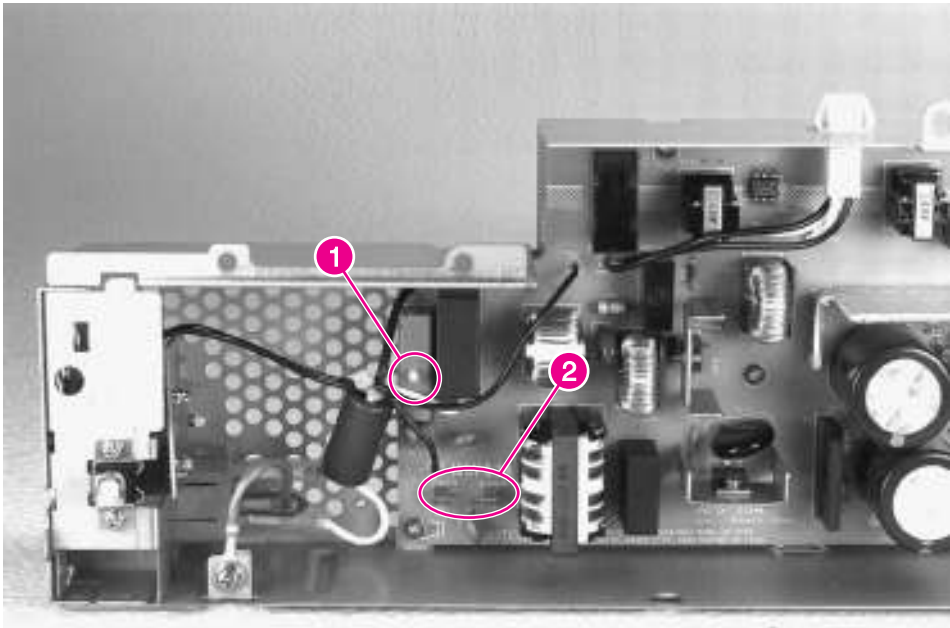

Figure 5-3 Low Voltage Power Supply
- The resettable circuit breaker (CB101) shuts off AC input power to the LVPS in case of an AC overcurrent condition. To reset, remove the LVPS and press in the circuit breaker button (figure 5-3, callout 1).
- Fuse 101 interrupts AC input power to the +24V DC and +5V DC power circuits. To check or replace the fuse (figure 5-3, callout 2) you must remove the LVPS.